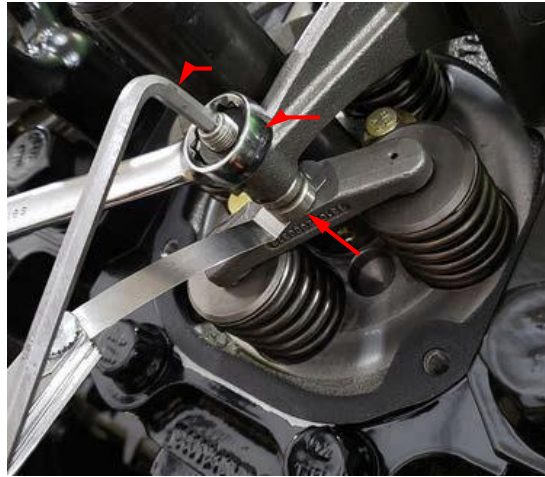

Figure 23
- g) Use feeler gauges (Figure 22) to check the clearance between the rocker arm and the valve bridge (Figure 23). Lash should be set to 0.55mm (0.022 in) for the intake and 1.00mm (0.039 in) for the exhaust. Repeat on all other valves with arrows of the same color as shown above.